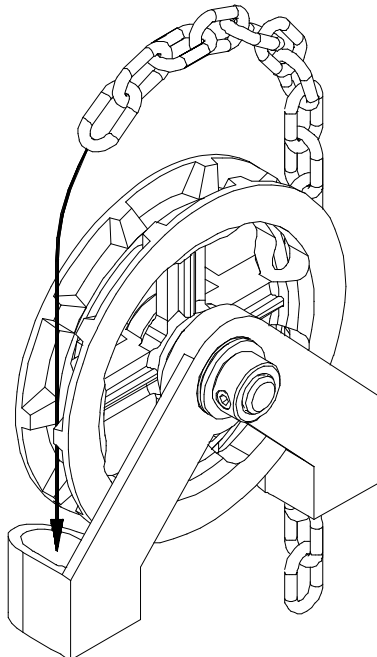

Figure 10 Installing hand chain on Opera-GH
4. Run hand chain through the pocket wheel and through the chain guide outside the frame (Figure 10), allow both ends to hang down toward the ground and cut hand chain, if necessary, so that both ends are approximately 2 feet (0.6 m) from floor. Connect both ends of hand chain.
Transferring the chain hoist from right to left or vice versa is done very easily in the field. No extra parts or any kind of adjustment is required to change the location of the chain hoist. Refer to the above drawing (Figure 10)